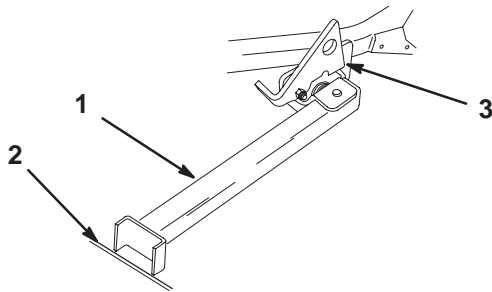

Figure 30
- Set the foot of stand on the ground and rest the latch on the pivot tab (Fig. 30).
Note: For best results, place the foot of stand into seams in sidewalks or into the turf (Fig. 30).
- Drive onto the stand. Stop when the latch drops over the tab into the locked position (Fig. 30). Once onto the stand, engage the parking brake and turn off the engine.